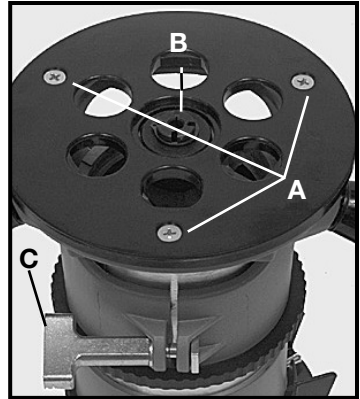

Fig. 6
2. Loosen the clamp screw (C) Fig. 6, and adjust the motor so that the collet nut engages the center hole in the sub-base. Allow the sub-base to center itself on the collet nut. Tighten the clamp screw.